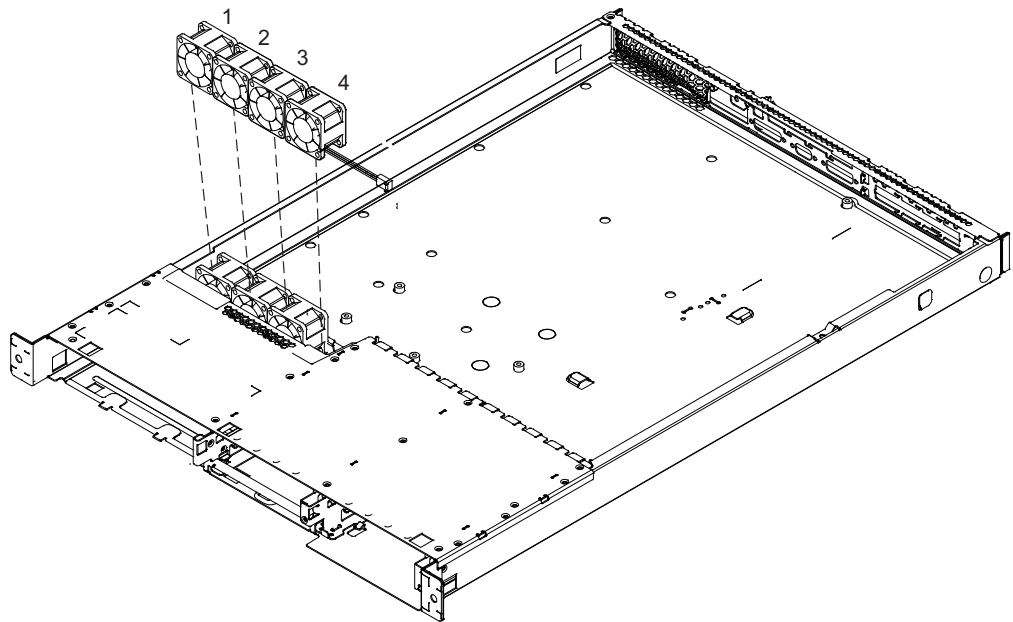

Figure 123. Removing a microprocessor fan
**Note:** The fans are numbered from one to four, from left to right. See Figure 123.